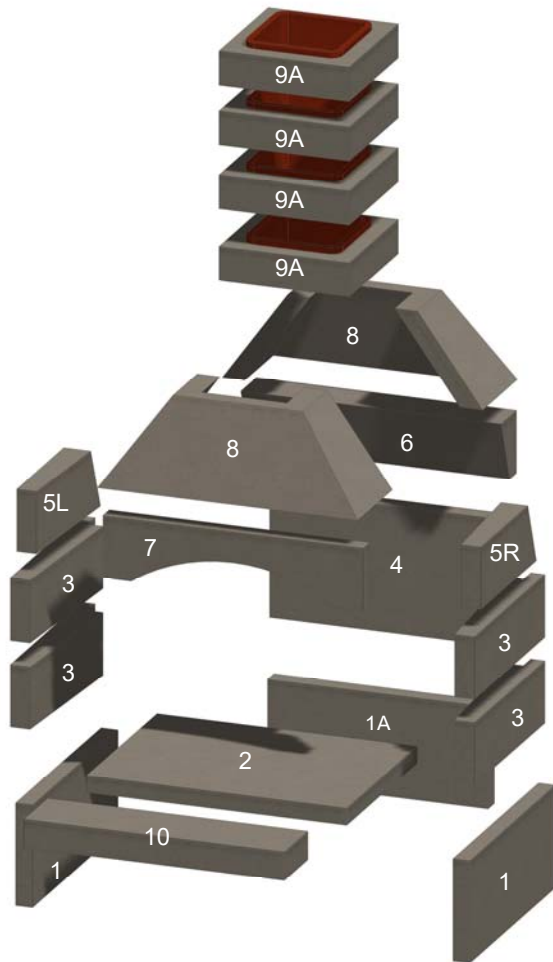
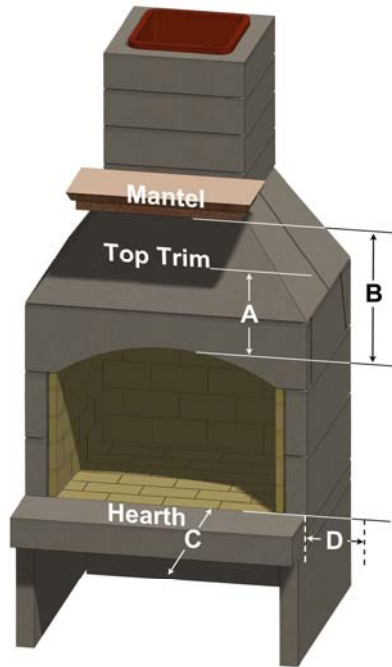

Figure 2. Fireplace Components
Figure 3. Clearances (Use with Table 2)
The fireplace is delivered as a kit with all components necessary to complete the installation. Component arrangements are shown in Figure 2. Components are listed in Table 1. Specifications and installation dimensions are shown in Table 2.
- A. Fireplace items shown in Figure 2 and listed in Table 1.
Table 2: Clearances (See Figure 3)
| Item | Clearance | Figure 3 Reference |
| Note 5: Clay flue liners installed in flue section (item 9A, Figure 2) meet the specifications of ASTM Section C315-02. | | |
Select a location in the home plans or outdoor living area where all the minimum distances, as shown in Table 2 and Figure 3 can be met. Proceed as follows. Numbers in () are item numbers from Table 1 and Figure 2. Ensure the base on which the fireplace is to be installed is a solid and level foundation and is composed of non-combustible material, such as concrete.
If the unit is to be installed indoors, do not use the Riser Legs (items 1 and 1A, shown in Figure 2 and Table 1). Instead, install the fireplace on a solid base, such as a cement pad or concrete blocks. Two courses of 8" tall block will be slightly shorter than the riser legs of the kit.
If this is your first Stone Age installation, it is suggested that you first assemble the components without mortar to familiarize yourself with how the components fit together. See Figure 2.
Q. Ensure the Table 2 and Figure 3 clearances and distances are maintained. Ensure that the hearth and flooring under and in front of the hearth are made of fully non-combustible materials, not just a non-combustible floor covering. When the hearth installation is complete, if the chimney complete and is not continuing through a roof or structure, you are ready to install the exterior finish. If the chimney will be continuing through a roof or structure proceed to Paragraphs 4.0 and 4.1 before beginning the finish application.